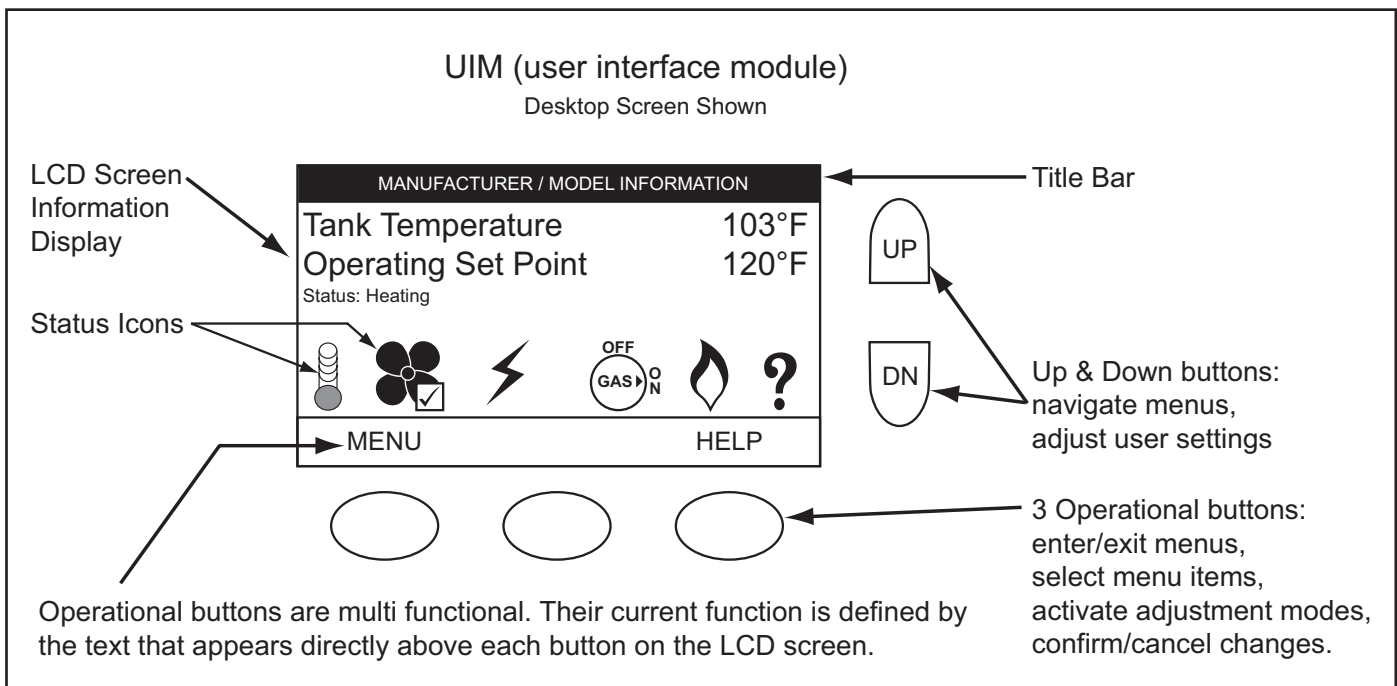

Figure 56
The "Operating Set Point" is adjusted to regulate water temperature inside the storage tank. This is an adjustable user setting in the control system's "Temperatures Menu." This and all control system menus are accessed through the UIM (user interface module) located on the front of the water heater, see Figure 56.
All operational information and user settings are displayed and accessed from the UIM. The UIM houses the control system's LCD (liquid crystal display) and five snap acting (momentary) user input buttons; an up, down and three (3) multi functional operational buttons below the LCD, see Figure 56.